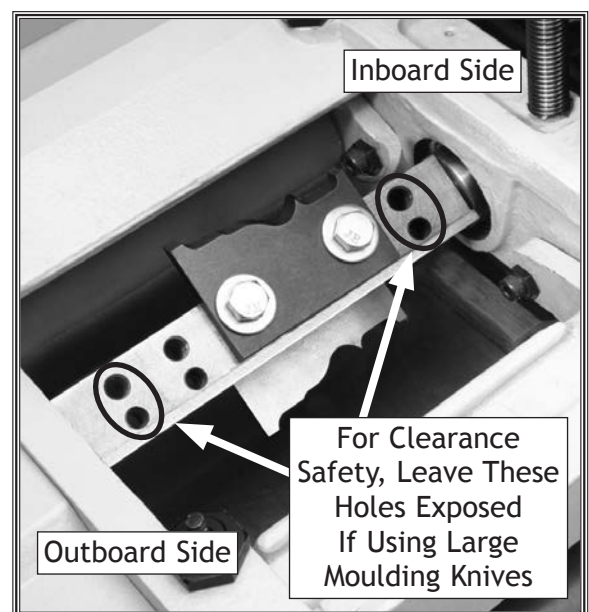

Figure 27. Knives positioned inboard.
6. Slide the knife to the inboard side of the cutterhead and fasten it with the knife bolts as shown in **Figure 27**. Typically only one set of holes will be open on the inboard side.